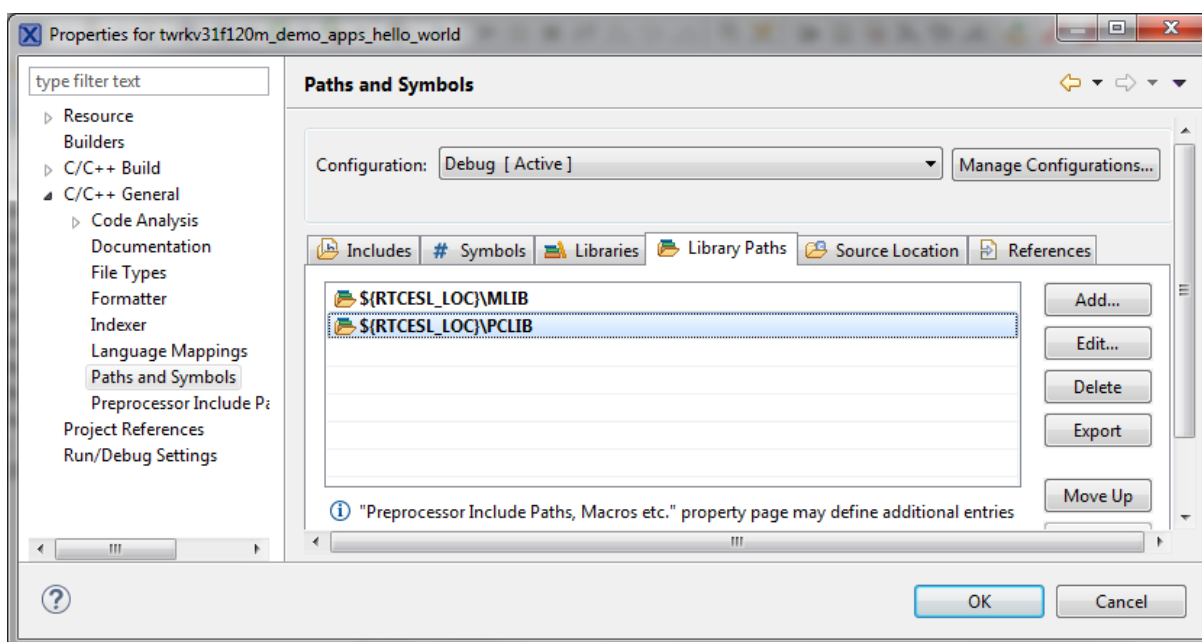

Figure 1-7. Library paths
3. In the right-hand dialog, select the Library Paths tab. See Figure 1-7.
8. Click OK, you will see the added into the list. See Figure 1-7.